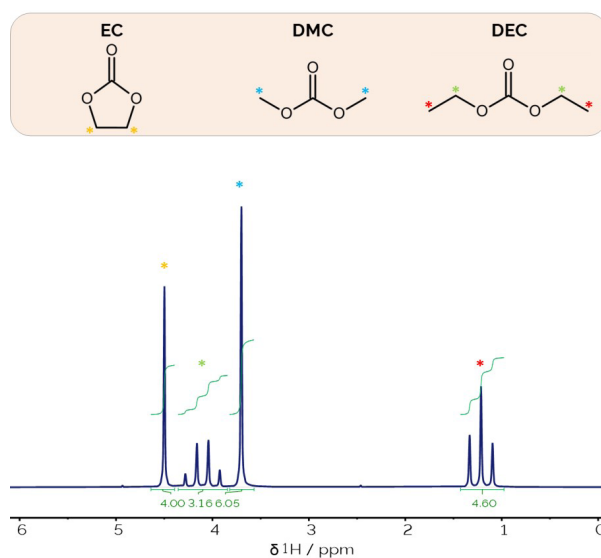

Figure 3:  $^1\text{H}$  spectrum of a simple solvent mixture typical for electrolytes
An easy example for a spectrum like that is given in figure 3, where a simple  $^1\text{H}$  spectrum was taken of a mixture of typical solvents contained in lithium-ion batteries: ethylene carbonate (EC), dimethyl carbonate (DMC) and diethyl carbonate (DEC).